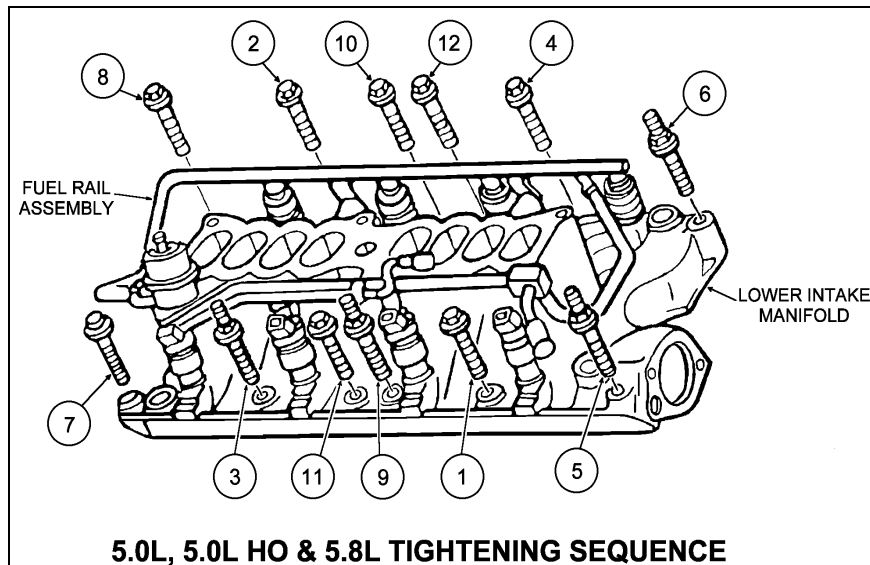

Figure 18
9. Torque the lower intake bolts in the sequence shown in Figure 18. Torque the lower intake bolts to 15 ft./lbs., and repeat the torque sequence to a final torque of 22-24 ft./lbs.